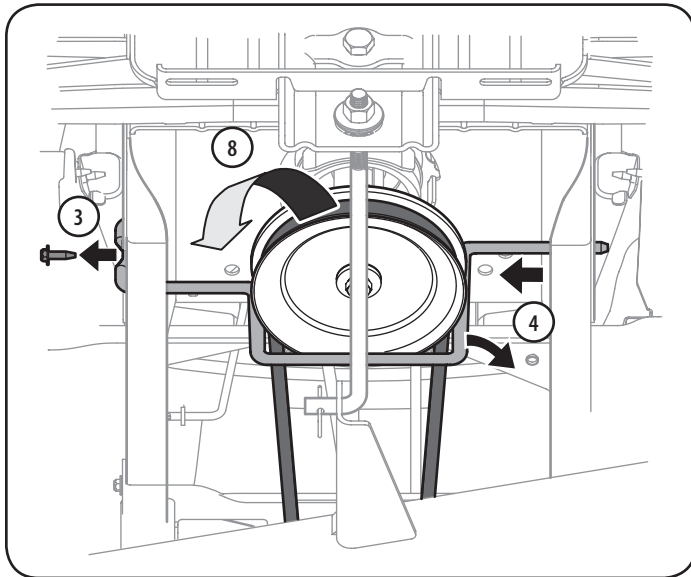

Figure 20
3. Remove the hex screw securing the engine pulley keeper rod to the frame. See Figure 20.
4. Slide the rod to the right to remove it. See Figure 20.
8. Carefully remove the belt from around the PTO pulley. See Figure 20.